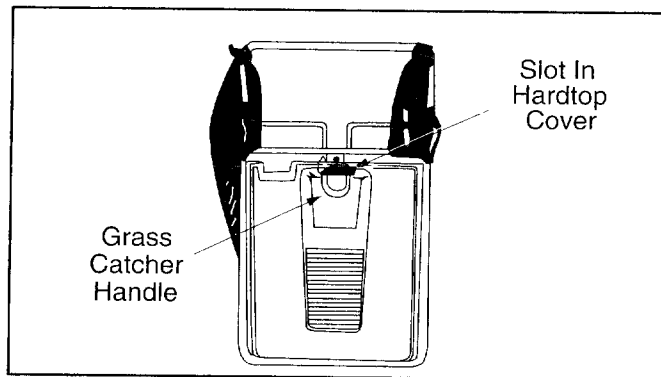

Figure 9
- Hold the bag and frame so the bag hangs from the frame (is not bunched around the frame). Slide the handle on the grass catcher frame down into the slot in the hardtop cover as shown in Figure 9.